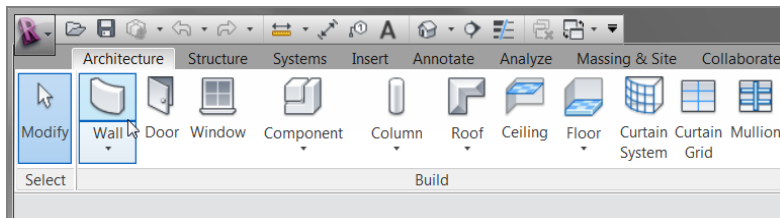

FIGURE 1.6: The Ribbon is the backbone of Revit.
1. At the top of the Revit window is the Ribbon. A series of tabs is built into the Ribbon. Each tab contains a panel. This Ribbon will be your Revit launch pad! Speaking of launch pads, click the Wall button on the Architecture tab, as shown in Figure 1.6.